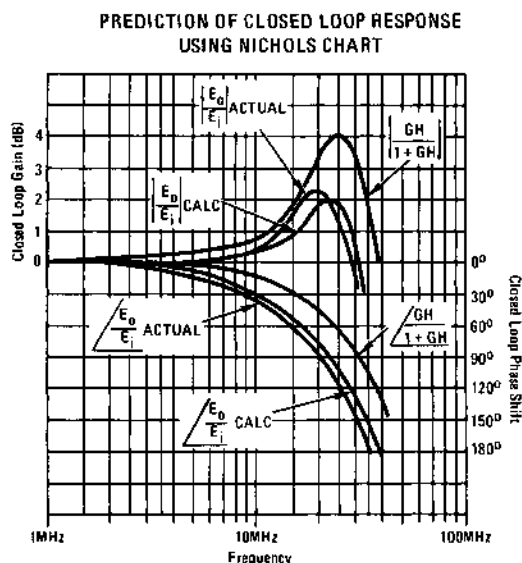

Figure 8
- (4) Transfer these points to semi-log paper and add the pole given by $\omega = \frac{1}{R_f C_f}$ (or $f_p = 32\text{MHz}$ for this case) to obtain the calculated closed-loop response, $\left(\frac{E_o}{E_i}\right)_{\text{CALC}}$ shown in Figure 8.
- (5) Obtain Bandwidth, Peaking and closed-loop phase margin from the closed-loop response given in Figure 8.